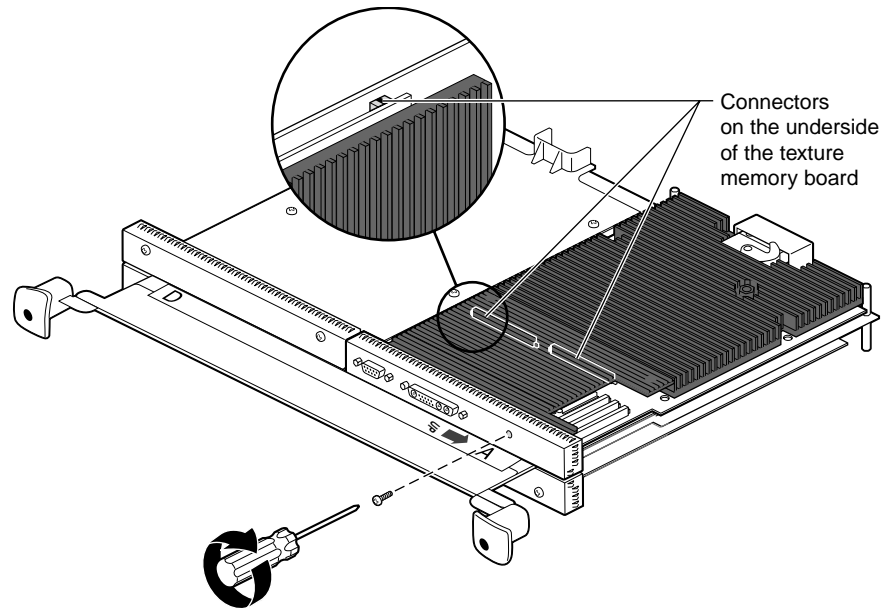

Figure 5-35 Inserting the Nylon Screw
5. Place and tighten the nylon screw that came with the texture memory board through the hole in the I/O panel and into the hole on the texture memory option board as shown in Figure 5-35.